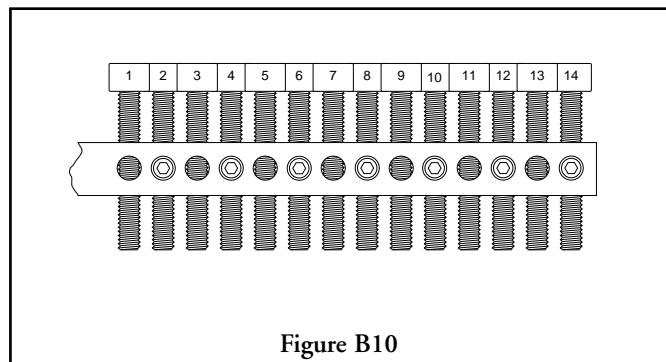

Figure B10
1. All the set screws should be set in the mid-point position when the unit is received. At this setting, an equal number of threads will be visible above and below each set screw and the screw tips will form a surface parallel to the cam arm (see Figure B10).